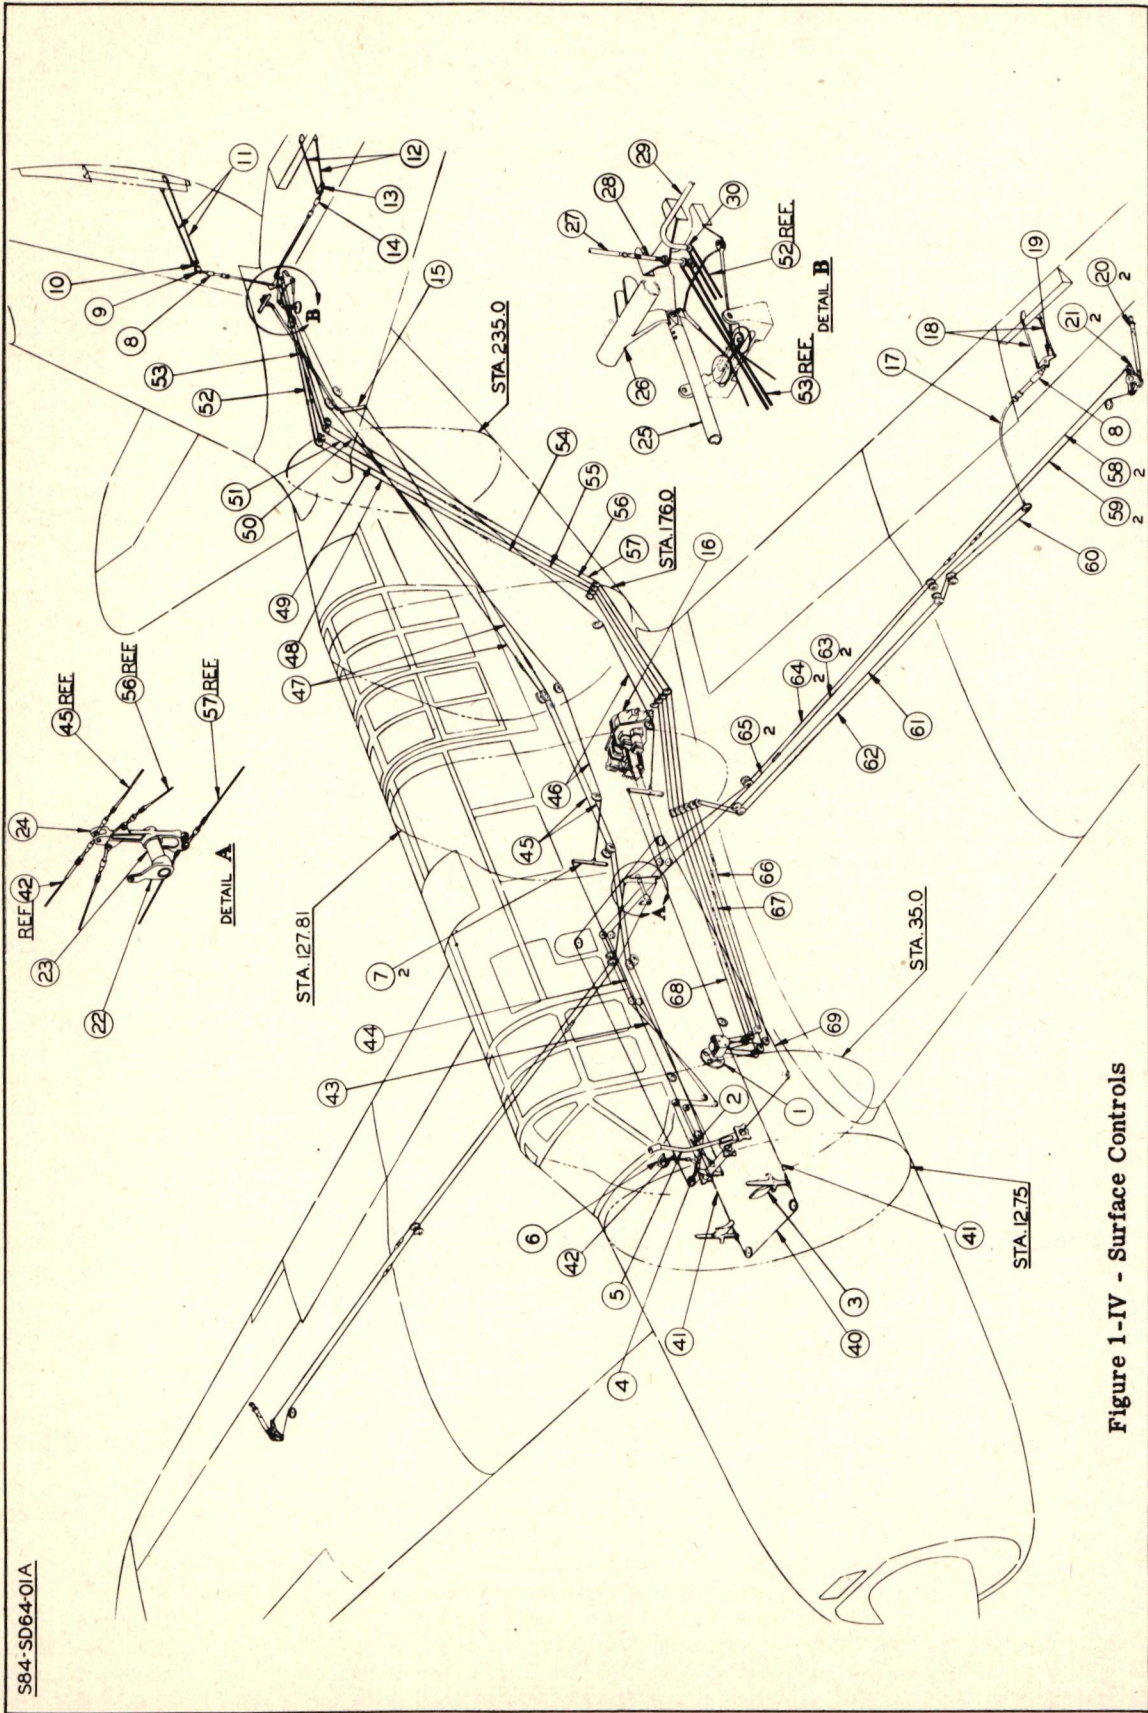

Figure 1-IV - Surface Controls
a. General.- A perspective of the surface controls is shown on fig. 1-IV. The surface control system is of the cable type, with balance tabs provided on the elevators, rudder, and ailerons to reduce the force necessary to move the controls in flight. The balance tabs allow the pilot to move the controls easily while still retaining the proper feel. The operation of the control surfaces is conventional for a single pilot system. All flight controls are operated from the front, or pilot's cockpit.
c. Rudder Control Assembly.- A detail of the rudder control assembly is shown on fig. 1-IV. The rudder control assembly consists essentially of rudder pedal and pedal adjustment mechanism. Brake control linkage is also incorporated with each rudder pedal assembly. Ball bearings are provided at points of rotational movement.